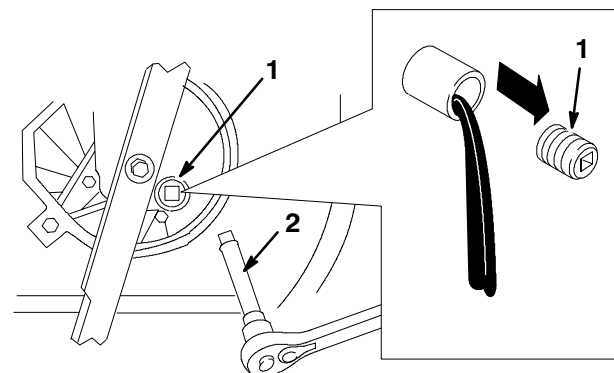

Figure 26
5. Remove the oil drain plug, return the lawn mower to its operating position, and allow the oil to drain into the drain pan (Fig. 26).